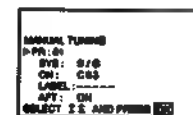

Fig. 11
- 3 Select "MANUAL TUNING" with Δ or ∇ and press OK. The MANUAL TUNING menu appears. (See Fig. 11.)